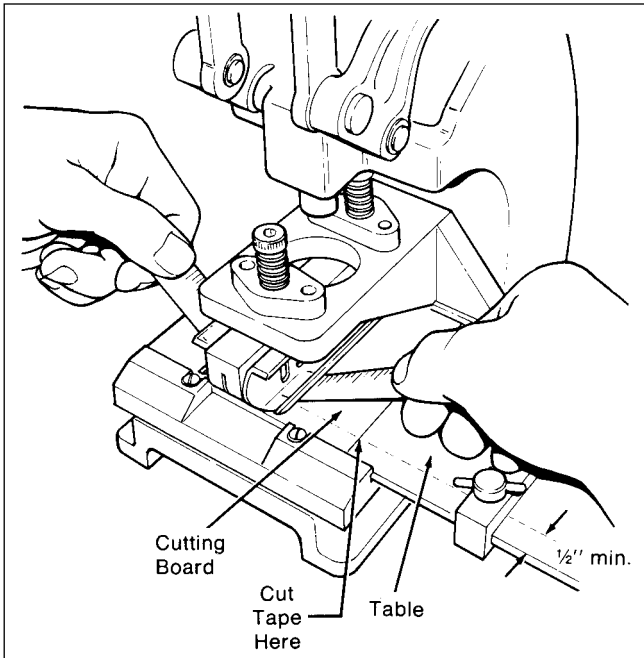

Fig. 3
3. Slide the tape under the plastic guards aligning a 12 inch mark (30 cm mark) directly under the blade, at least 1/2 inch (1.27 cm) from either edge of the table (figure 3).